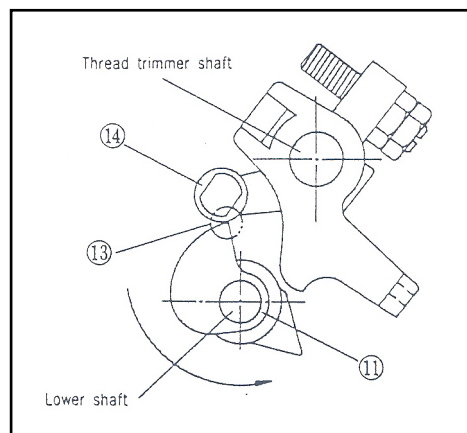

Figure 7.16
- E. Tighten up screw '9' for the thread trimming cam after adjustment. Check the roller of cam '11' with roller '14' by rotating thread trimming cam '11' by hand. Refer to Fig. 7.16.